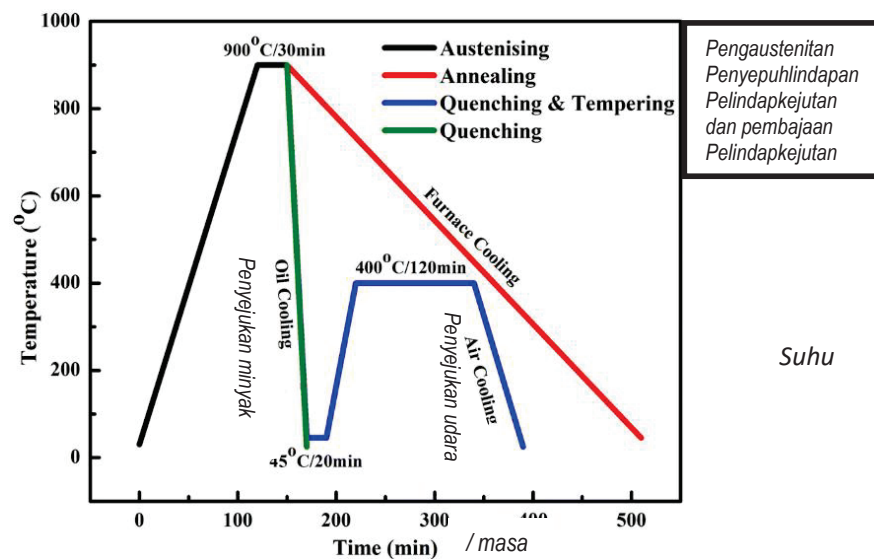

Figure 4: Some heat treatment route for AISI 4140 Steel
- (b). The heat treatment routes shown in Figure 4 would result in different phases and microstructures. This becomes one of the factor why steel is unique and widely used in many applications especially structural components. Based on the routes, elaborate why steel can be heat treated to give different microstructures, and thus, having different properties.